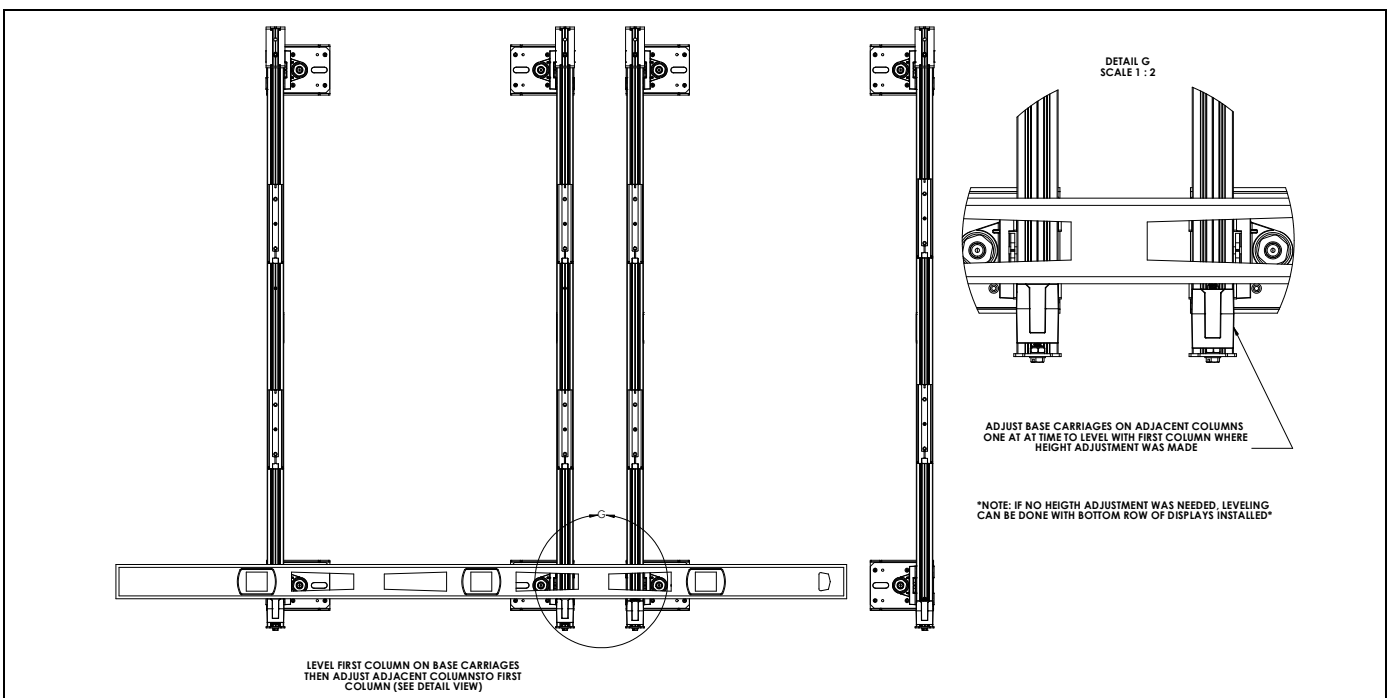

Figure 13
33. Adjust each base carriage on the first column the required amount for coverage. Rest a level across the height-adjustment carriage on each upright to level the carriages on the first row at (or above) the required coverage height. (See Figure 13)